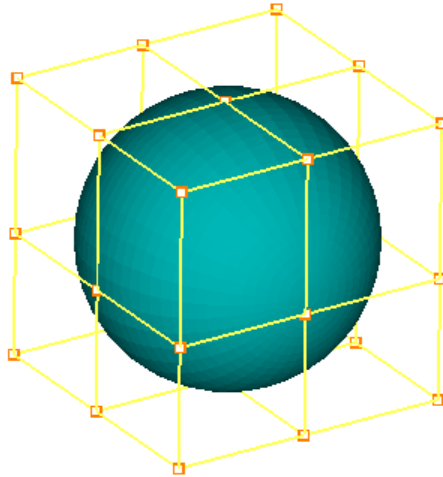

Figure 4.113: Topology where nesting cannot be applied
3. Nesting cannot be applied for 3-D as it may encounter a singular point. As shown in figure 4.113, it cannot be applied along 3D sheet.